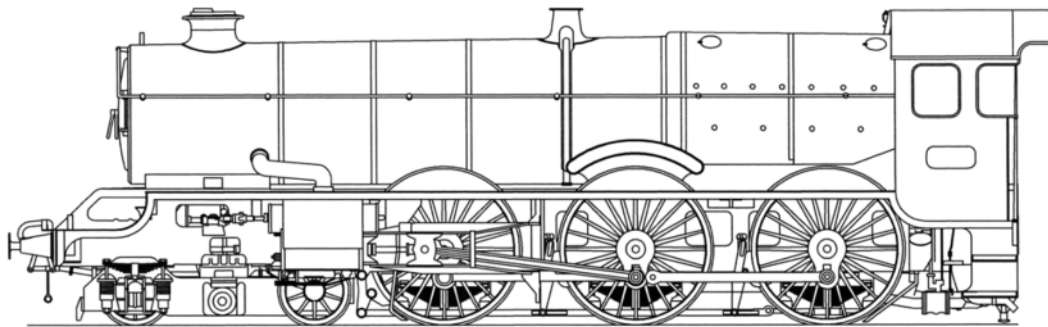

Fig.1. a convenient steam locomotive, from:
**Figure 1** thermodynamic state properties